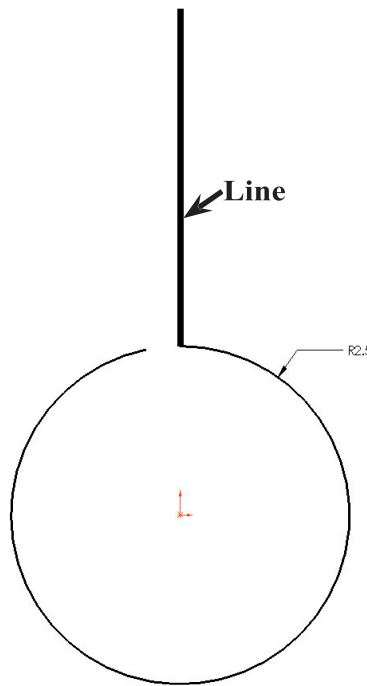
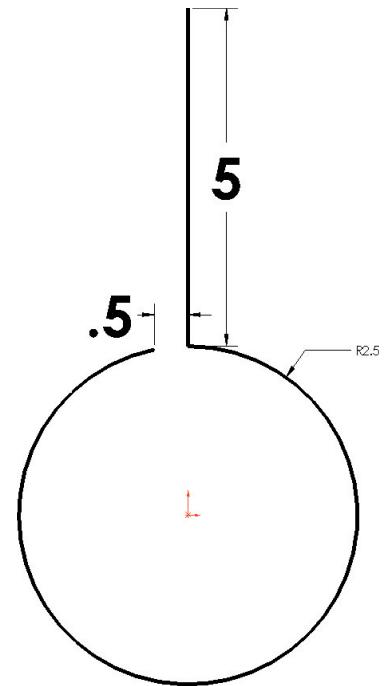

Fig. 4
Fig. 5
Step 1. Click **Line**  (L) on the Sketch toolbar.
Step 2. Draw line as shown in **Fig. 4**. Draw the line up from the arc endpoint that is directly above Origin.
Step 3. Click **Smart Dimension** (S) on the Sketch toolbar.
Step 4. Dimension arc gap **.5** and the line **5** as shown in **Fig. 5**. To dimension the gap in arc, click both endpoints of arc, then move cursor out way and click. To Smart dimension the line, click the line, then move the cursor out away from the line and click.